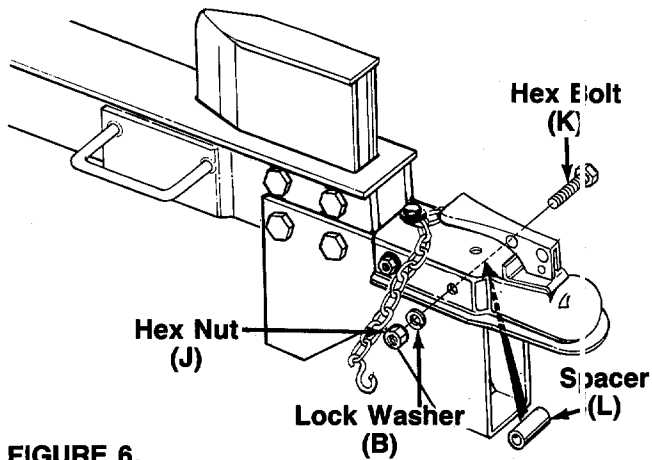

FIGURE 6.
- Place the hitch in position on the beam stand as shown in figure 6. Place spacer (L) inside the beam stand. Insert hex bolt (K) through hitch, beam stand and spacer. Secure with lock washer (B) and hex nut (J). Assemble second bolt in same manner. Tighten both bolts and nuts securely.